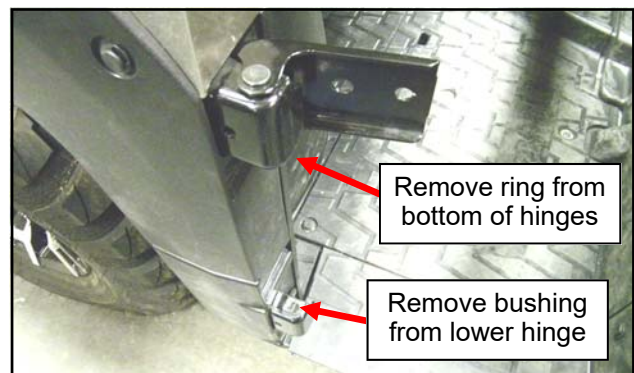

Fig. 1.3 Factory door hinges (8)
1.3 Per figure 1.3, remove all (8) factory door hinges by removing the retaining ring and pin from each hinge. Remove the plastic bushing from the lower front hinge on both sides of the vehicle.